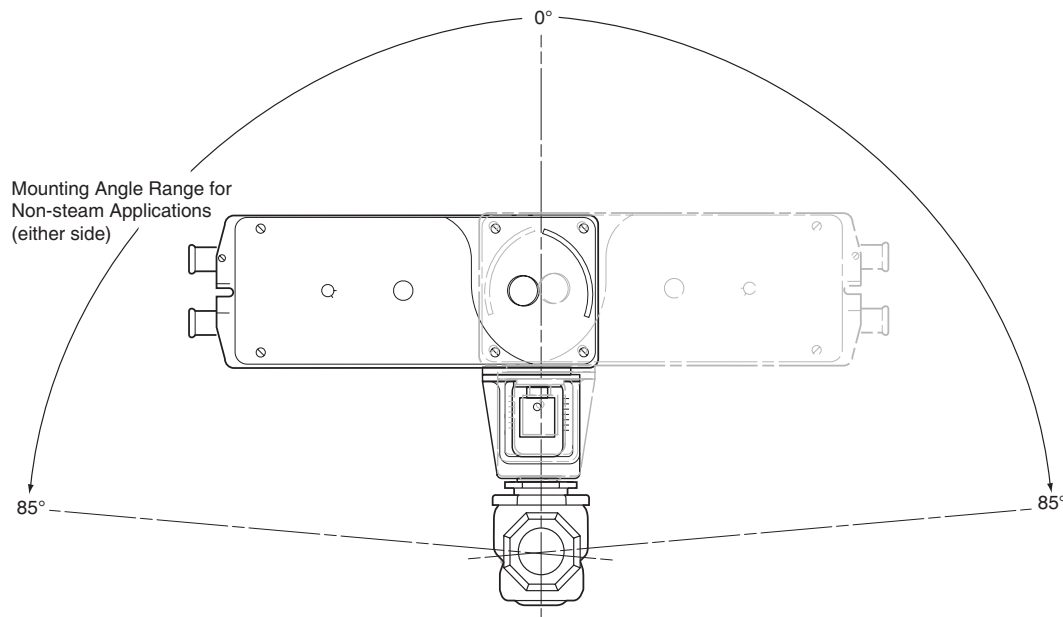
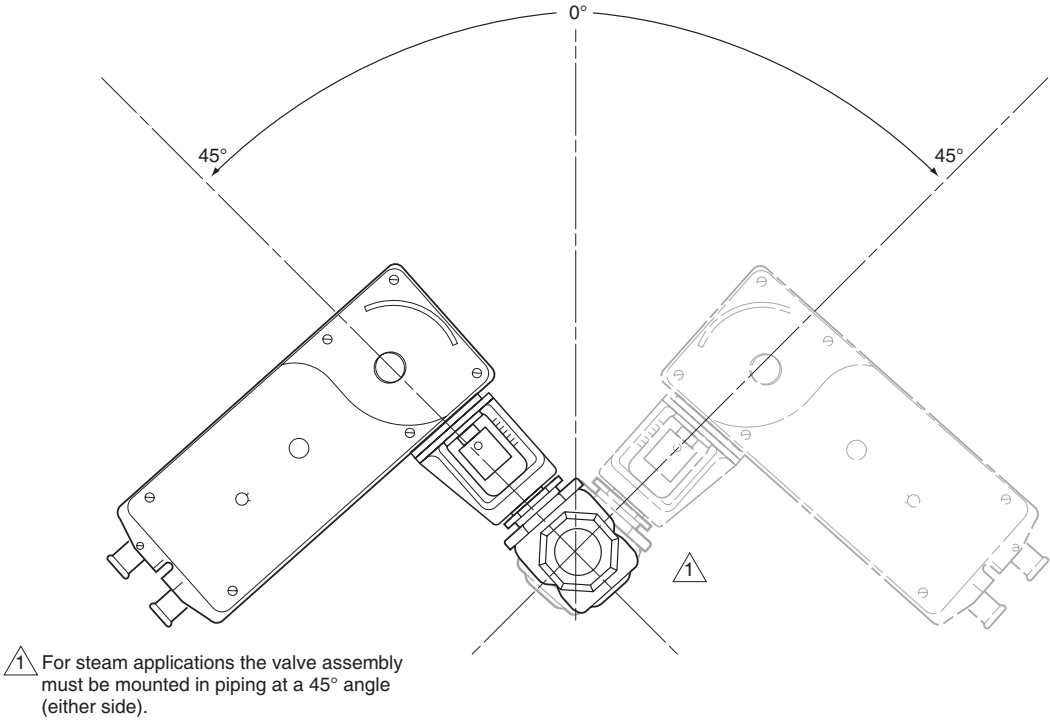

Figure-15 Typical Mounting Position.
Figure-16 Typical Mounting Position for Steam Applications
- The actuator must be mounted above the centerline of the valve body. This will minimize the risk of damage to the actuator in the event of condensation. Refer to Figure-15, Figure-16, and Figure-17.
The valve should be mounted in a weather-protected area, in a location that is within the ambient temperature limits of the actuator. The installation of the actuator assembly should provide clearance on all sides to allow for any maintenance that may be needed (see Figure-15 and Figure-17). Install the valve according to the instructions in the appropriate valve body General Instructions sheet (see Applicable Literature).
- On non-steam applications the globe valve assembly must be mounted so that the actuator is at least 5° above the horizontal (Figure-15) to ensure that any condensate that forms will not travel into the mounting bracket or actuator.
- On steam applications, the globe valve assembly must be mounted at 45° from vertical. (Figure-16).